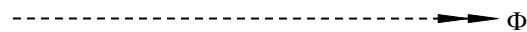

Figure 10
Step 5: Draw the phasor diagram to determine the primary current, by taking the phasor addition of the no-load current and the load component of current. See figure 10.